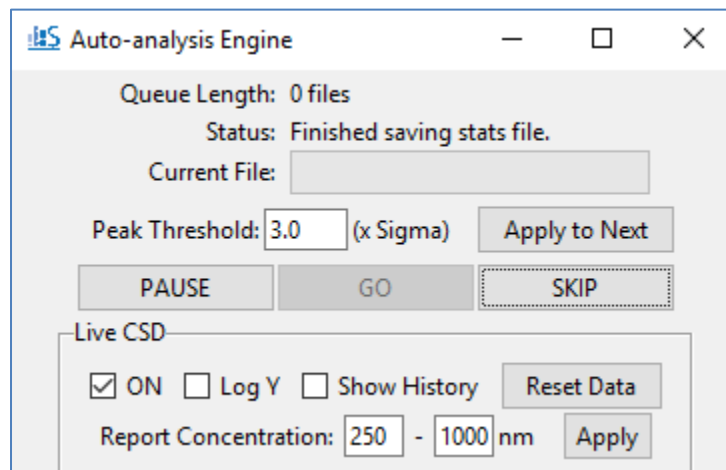

Figure 9. Auto-analysis Engine interface.
- Flagged acquisitions are placed in the Auto-analysis Engine queue for automatic processing into Spectradyn Stats files (Figure 9).
- Display Options (see Figure 9):